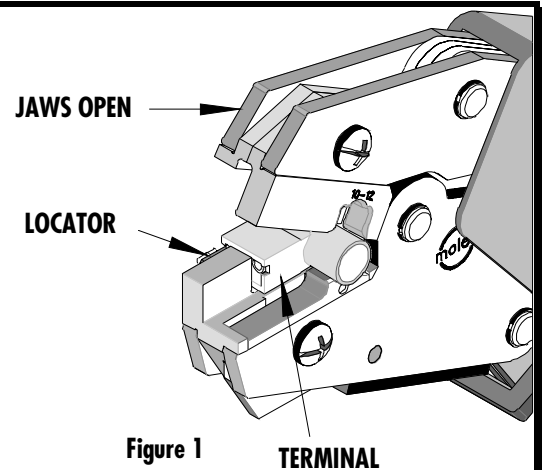
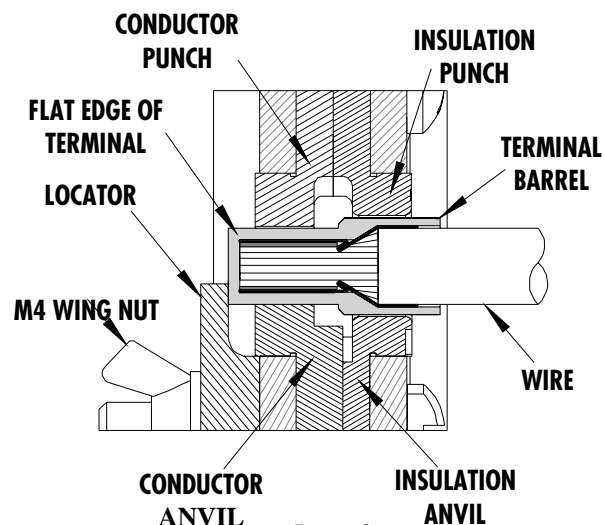

Figure 1
Figure 3
1. Insert the terminal with the barrel into the color-coded nest and the square edge of the flag facing out. Make sure the back of the flag terminal is against the locator. See Figure 1. If terminal is not flush against the locator loosen the M4 wing nut and adjust the locator up or down so that the flat edge of the terminal is flush against the wall of the locator. Tighten the M4 wing nut. See Figure 3.